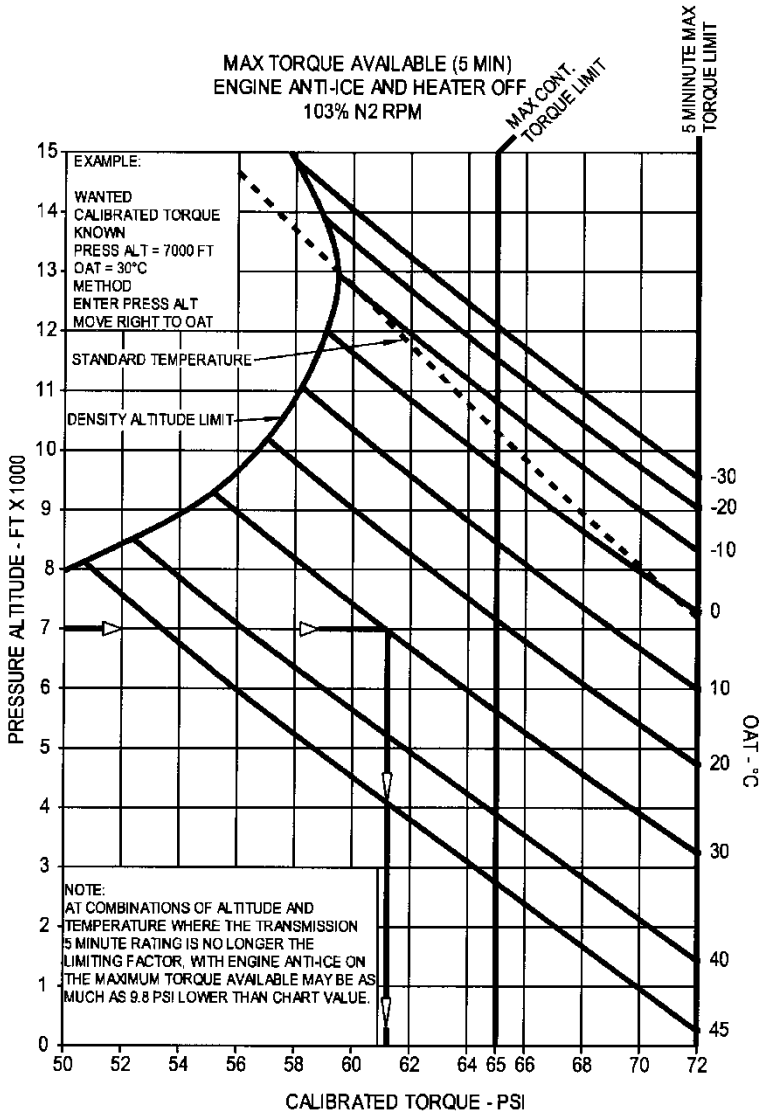

Figure 4-4. Maximum Torque Available (5 Minute Limit)
1. Figure 4-4 shows the maximum torque available as limited by either the transmission or the engine. The primary use of the chart is to provide the pilot information on the maximum power available either as a function of the helicopter limits or the flight conditions. Since both pressure altitude and outside air temperature effect engine power it is necessary that the pilot enter the chart with both values. By entering the chart at the left side at the known pressure altitude and moving right to the known OAT, then straight down to the bottom, available torque is obtained.
The difference between the torque required to hover at the desired skid height, as determined from this chart, and the transmission structural limit (72 PSI), or the maximum torque available as determined from Figure 4-4, will be the power reserve available for the intended flight operation.